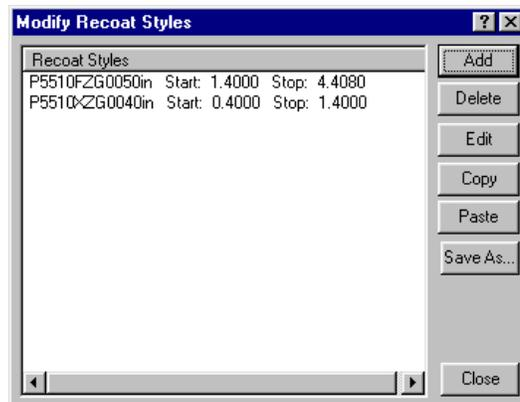

Figure 90. *Modify Recoat Styles Dialog with Added Recoat Style*
5. Click the.. button to add the recoat style into the "Modify Recoat Styles" dialog (Figure 90).